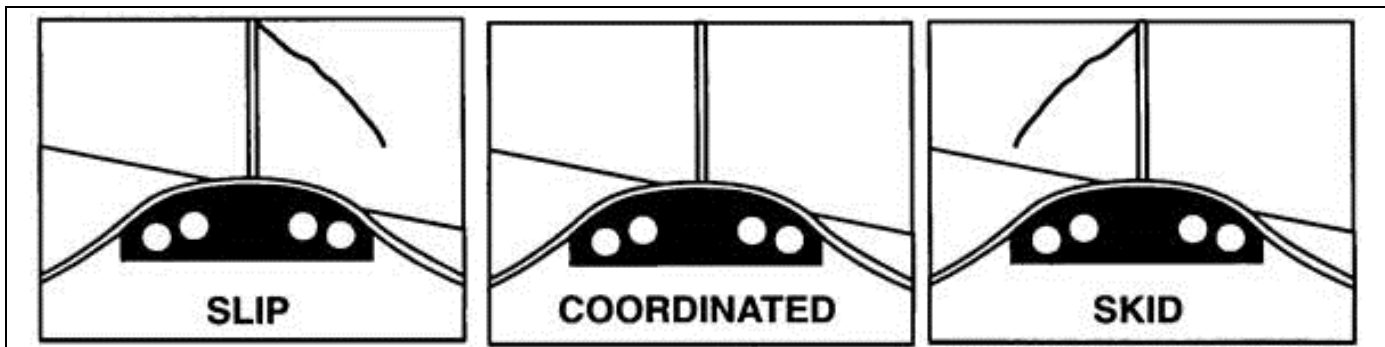

Figure 3-4 Yaw String
21. When the aircraft is in uncoordinated flight, the yaw string is displaced from the centre. In uncoordinated flight your body tends to lean towards one side of the cockpit, which gives you the sensation similar to that felt when rounding the corner in a car. Coordinated flight should be free of slip or skid (Figure 3-4) even in a steep turn, and your body should remain in a comfortable, upright position.
35. A common error that occurs once a turn is established is misuse or over-control of the rudder. One of the least expensive and most efficient slip/skid indicators is the yaw string, a piece of yarn mounted in the free air stream in front of the pilot as shown in Figure 3-4. The yarn remains aligned with the glider when the controls are properly coordinated, but indicates a slip by moving toward the outside of a turn, or a skid by moving toward the inside of the turn. A simple rule of thumb for applying the proper amount of rudder is to apply the rudder opposite to the direction the string is pointing until the string is centralized making sure that the angle of bank does not change.